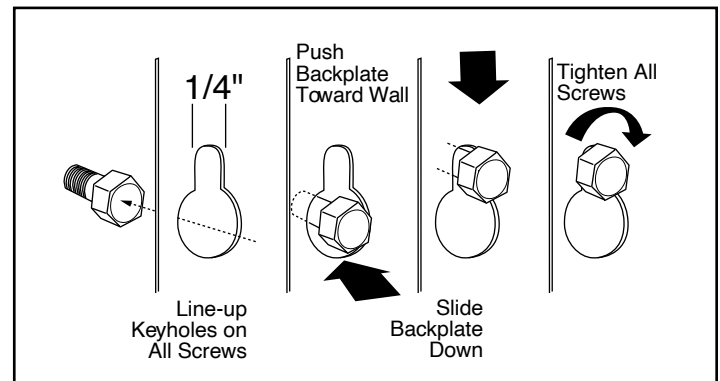

Figure 5
6. **Keyhole Mounting:** Install the mounting hardware (supplied by others), allowing for space to hang the air curtain by not fully tightening. Without touching the blower wheels, lift and slip the air curtain over the mounting hardware by grasping the inlet rings of the blower housing. Tighten the mounting hardware. **See Figure 5.**